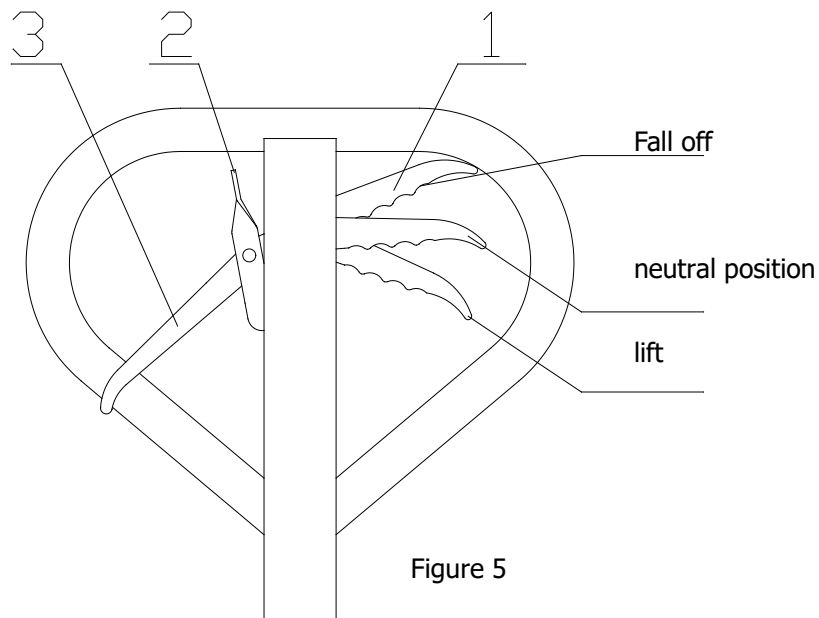

Figure 5
4.1 After the truck is assembled, try to rock the hand grip and operate different positions of control handle knob 1 to examine the lifting, free position and dropping and check that whether the different positions are normal or not. See fig 5
5.3 See fig 5, when hand knob 1 is placed on the lift position, the truck will be in a state of lift. At this time, if you rock the hand grip, the truck will be lifted
5.4 See fig 5, when hand knob 1 is placed on the free position, the truck will travel. At this time, if you rock the hand grip, the truck will neither lift nor drop. Then, you can use the truck to move the cargo
5.5 See fig 5, when the hand knob 1 is placed on the drop position, truck forks will drop. At this time, the truck forks will drop automatically.
5.6 See fig 5, when the hand knob 3 is placed below, the truck will be in a state of free walking.
5.7 See fig 5, when the hand knob 14 is placed above, the truck will be in a state of brake
5.8 See fig 5, hand knob 2 is used for release brake.